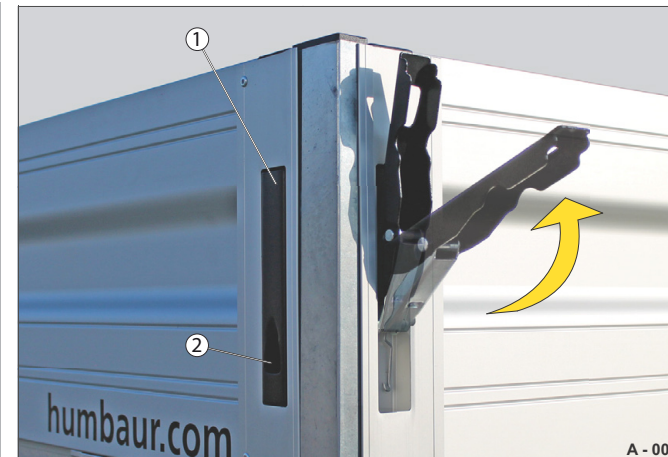

Fig. 7 Covered lock (STARTRAILER, HA, HT)
- Put your hand in the access opening (Fig. 7 /2).
- Pull the handle (Fig. 7 /1) upwards.